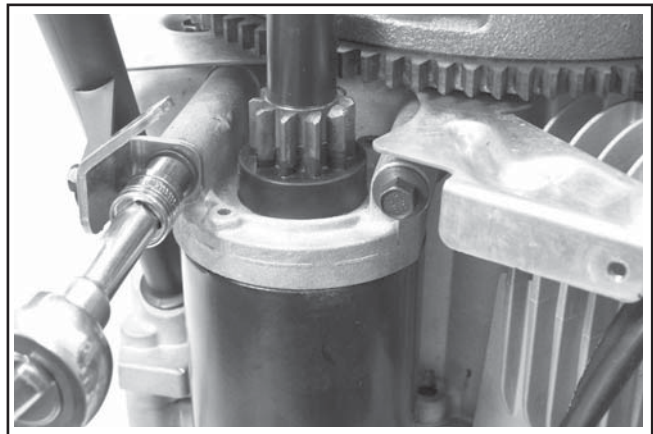

**Figure 8-17. Removing Carburetor.**
4. Remove the carburetor, throttle linkage and governor lever as an assembly. See Figure 8-17.